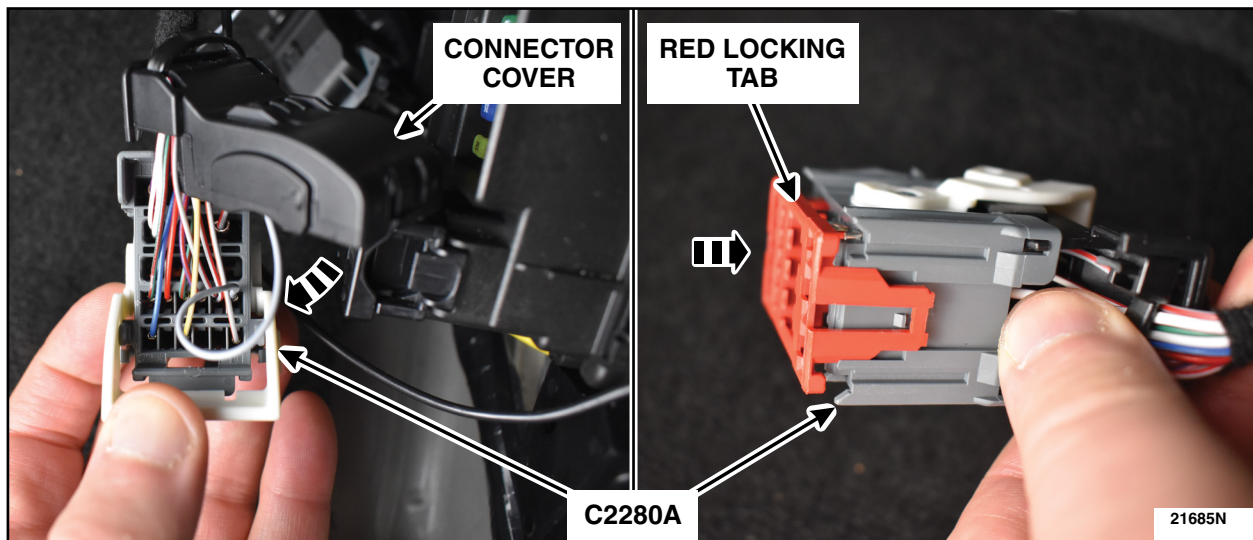

FIGURE 13
17. Position back the connector cover and install the red locking tab of C2280A. See Figure 13.